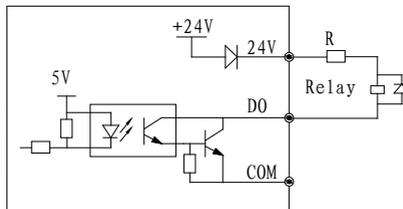

Fig. 2-21 On-off output connection mode 1 of multi-function output terminals
1) Multi-function output terminals Y as discrete output can use the internal 24V power supply of inverter and the wiring method is shown in Fig. 2-21.